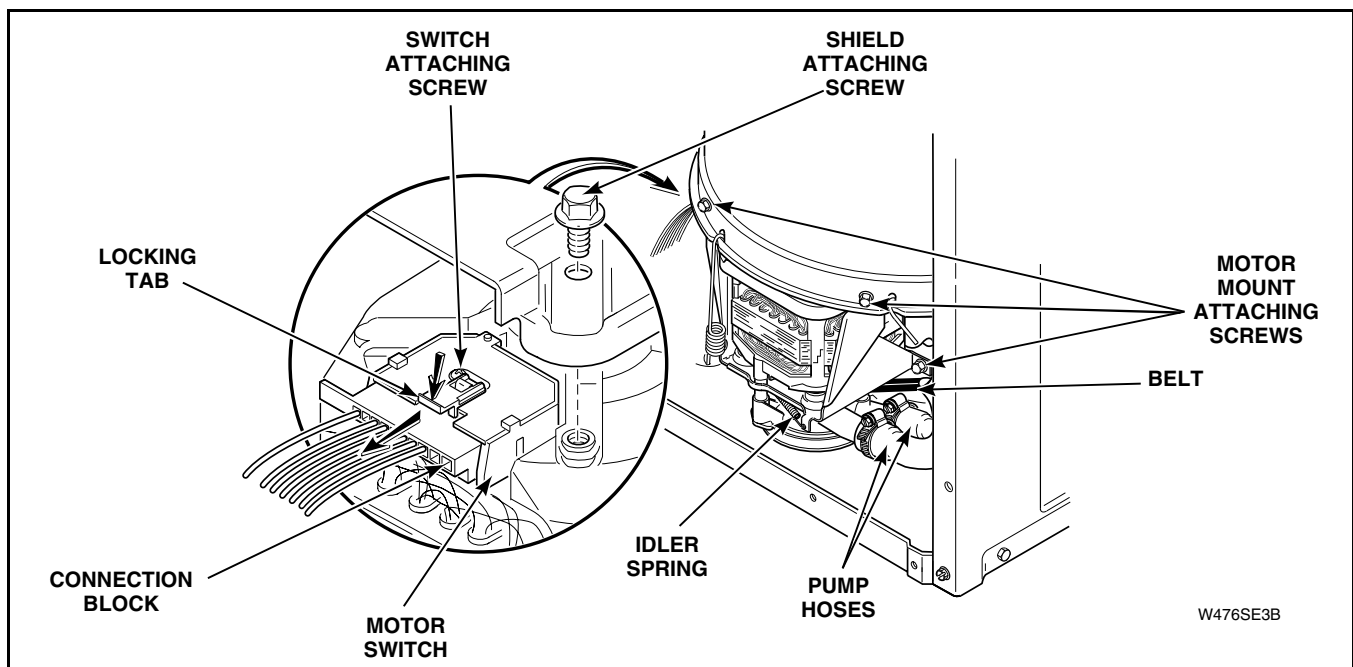

Figure 43
- d. Remove two screws holding motor shield to motor. Refer to *Figure 43* and remove shield.
- e. Disconnect wire harness from motor switch by pressing down on locking tab on top of connection block and at the same time pull connection block away from motor switch. Refer to *Figure 43*.
- f. Remove screw holding motor switch to motor. Refer to *Figure 43*. Then remove switch.
- c. Loosen hose clamps and remove hoses from pump assembly. Refer to *Figure 43*.
- d. Unhook idler spring from idler lever. Refer to *Figure 43*.
- e. Reach in and around right side of motor and run belt off right side of large drive pulley. Refer to *Figure 43*.
- f. Disconnect wire harness from motor switch by pressing down on locking tab on top of connection block and at the same time pull connection block away from motor switch. Refer to *Figure 43*.
- g. Remove four screws holding motor mounting bracket to lower flange of outer tub and to weldment assembly. Refer to *Figure 43*. Then remove complete assembly out of washer.